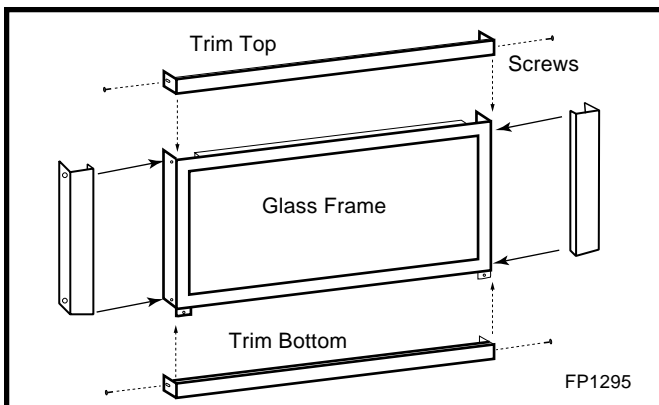

Fig. 45 Install support window trim channel and top and bottom brass trim.
2. Install support window trim channel, top and bottom brass trim by using the shortest black screw. (Fig. 45 & 46)